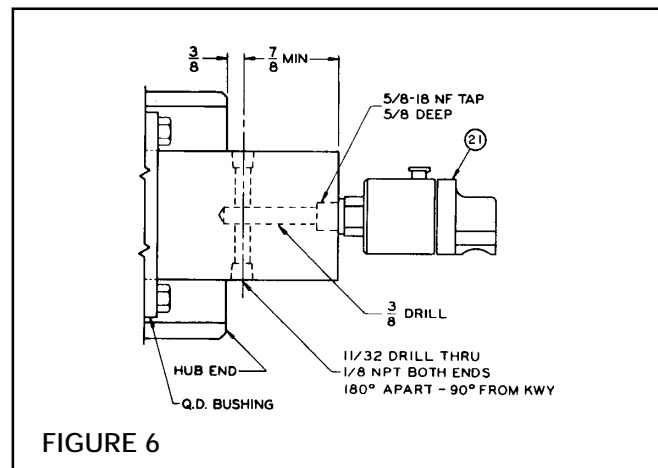

FIGURE 6
2. Tap the end of the Shaft 5/8–18 by 5/8" deep (See Fig. 6).
3. Drill a 11/32" diameter air outlet hole through the shaft; intersecting the air inlet hole approximately 3/8" from the end of the Hub (See Fig. 6).
4. Tap both air outlet holes 1/8–27 NPT by 5/8" deep (See Fig. 6).
8. Install the Rotary Air Union (Item 21) (See Fig. 6).